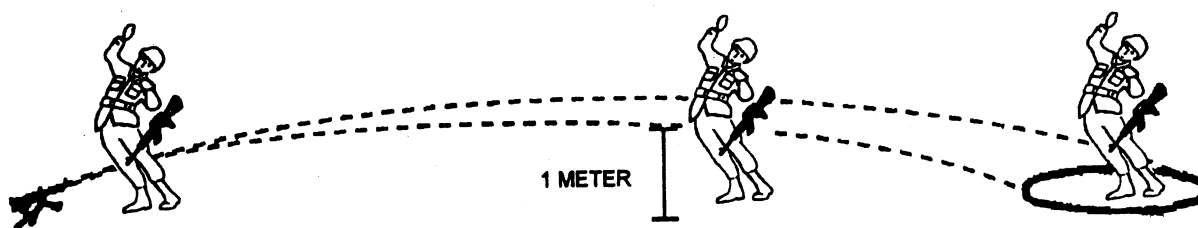

Fig 3-4. Grazing fire.
a. **Grazing fire.** One class of fire is grazing fire. The center of the cone of fire does not rise more than one meter above the ground. The M240G machinegun will deliver grazing fire up to 600 meters over level or uniformly sloping terrain. An average-sized person standing anywhere along the gun target-line will be struck by grazing fire (see fig 3-4). In a good defensive position, your machinegun can deliver grazing fire across the majority of your unit's front, interlocking with the fires of adjacent machineguns.